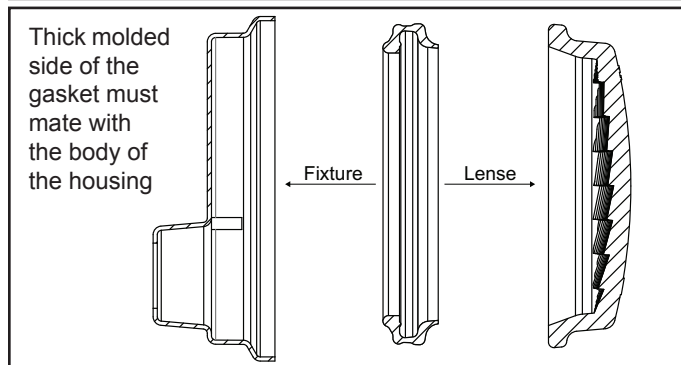

Figure 10. Cross Section of Jandy Pro Series WaterColors LED Light
2. While holding the fixture upright, place the glass lens with the gasket on top of the fixture. Please note that the lens gasket is not symmetrical. Therefore, it must be installed correctly so that the lens can seal to the fixture housing. Place the gasket on the lens with the orientation shown in Figure 10. On the small light, replace the diverger by tucking the tabs between the lens and gasket.